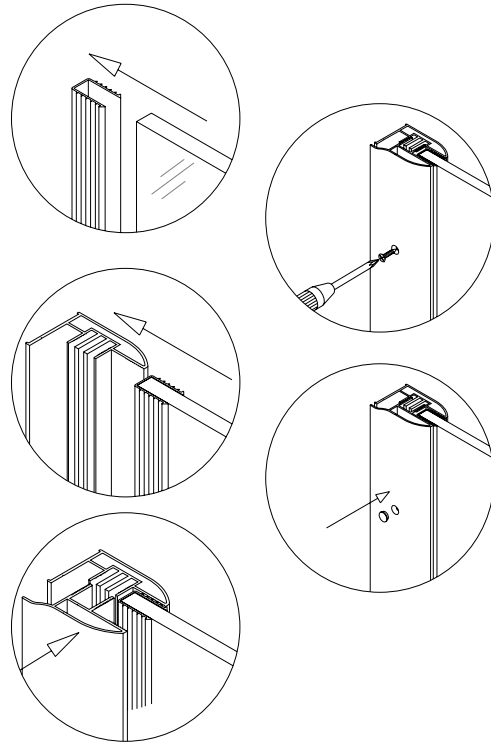
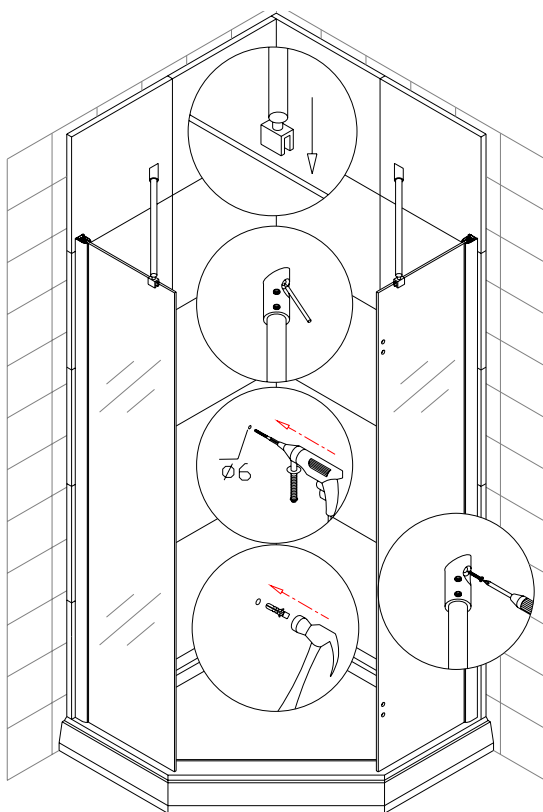

Fig 2
Fig 3
3. Attach the second part of **glass profile (1)** to the **wall profile** using ST4.2x15 round self-tapping screw (11) slightly fasten the profile (fig 2).
4. Have out the **stationary glass panel (3)**. Place a **u-shape gasket(16)** on the long (vertical) side of the glass panel; then fit the glass with the gasket into the assembled **wall Profile (1)**, then fasten it tight (fig 2).
5. Repeat step 1-3 to install second **wall profile** and the **stationary glass panel (4)**. Check, if stationary glass installed vertical in both directions.
6. Place the **bracket assemble** over the stationary glass (fig 3). Assemble should be paralleled to the floor and the wall mounting bracket of assemble has been flat with the wall. Mark the hole on the wall through the mounting bracket. Drill holes on the wall at this mark, insert anchor and secure bracket assembles to the wall. Complete the assembly by inserting of plastic gaskets between brackets and glass and tightening the screws. Do not fasten it very tight as you may need to adjust it.